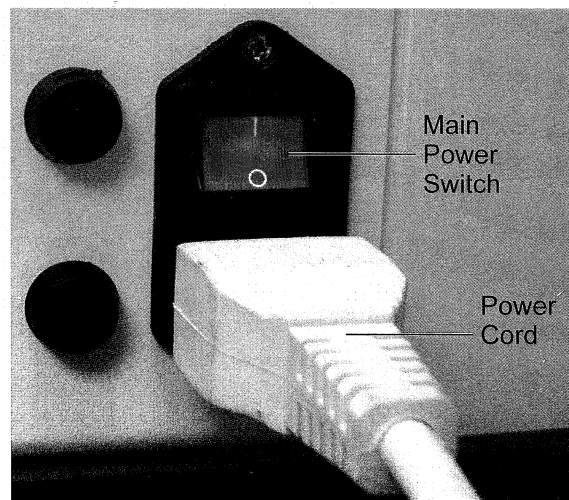

Figure 5-1. Power Connection Port
2. Verify that the power cord is connected to the power connection port on the rear side of the system console, as shown in Figure 5-1.
4. From the rear side of the system console, turn on the main power switch, as shown in Figure 5-1.